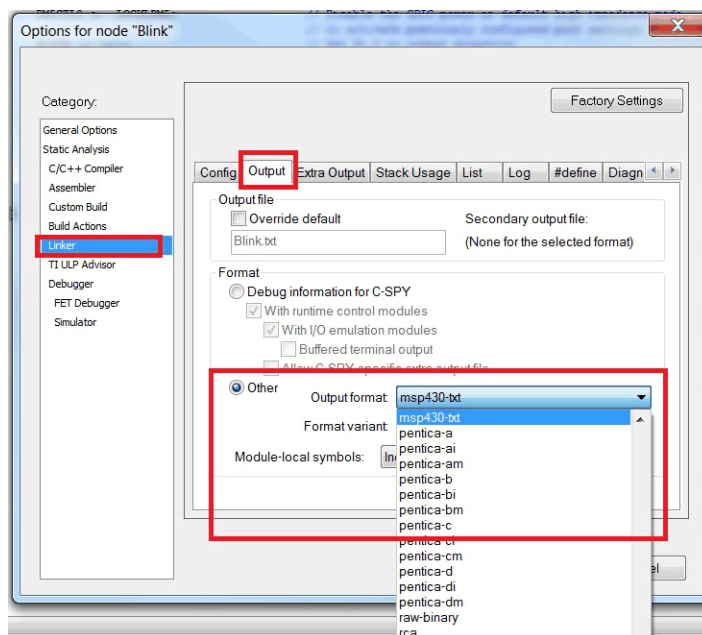

Figure 7. IAR – Select Output Format
2. Under **Linker Category**, select the **Output** tab. In the **Format** section, select **Other**, then select the **msp430-txt** or **intel-standard** output format (see Figure 7).